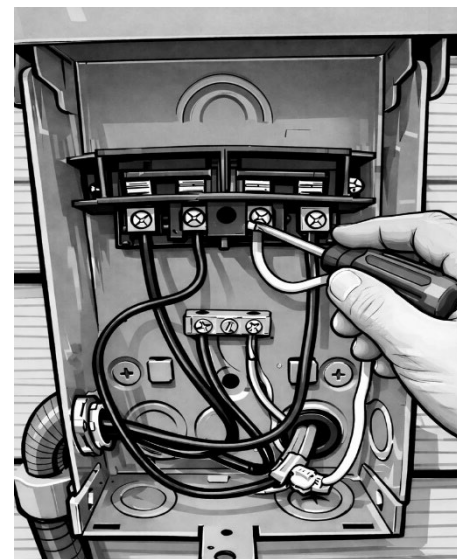

Figure 4: Ensure all terminals are properly tightened
- Ensure all connections are tight and properly seated. as shown in *Figure 4*